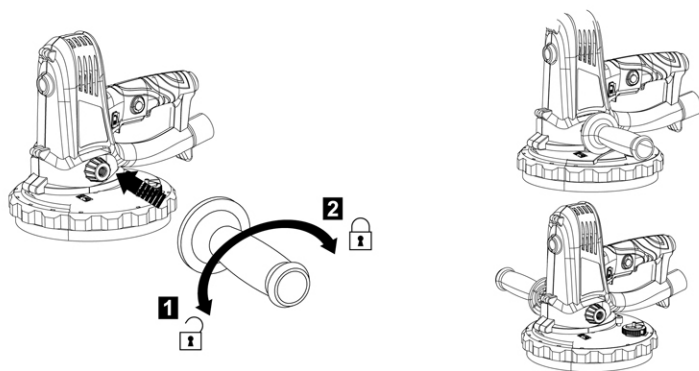

Fig. 1
- > Screw the auxiliary handle (9) clockwise in one of the mounting threads (9a) (Fig. 1).
- > Make sure the auxiliary handle (9) is securely fastened.